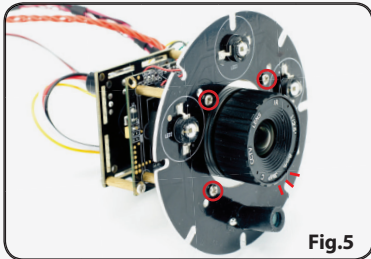

Fig.5
Step 4: Loosen the four screws connecting the LED board to the long gold-colored spacers (Fig. 5).